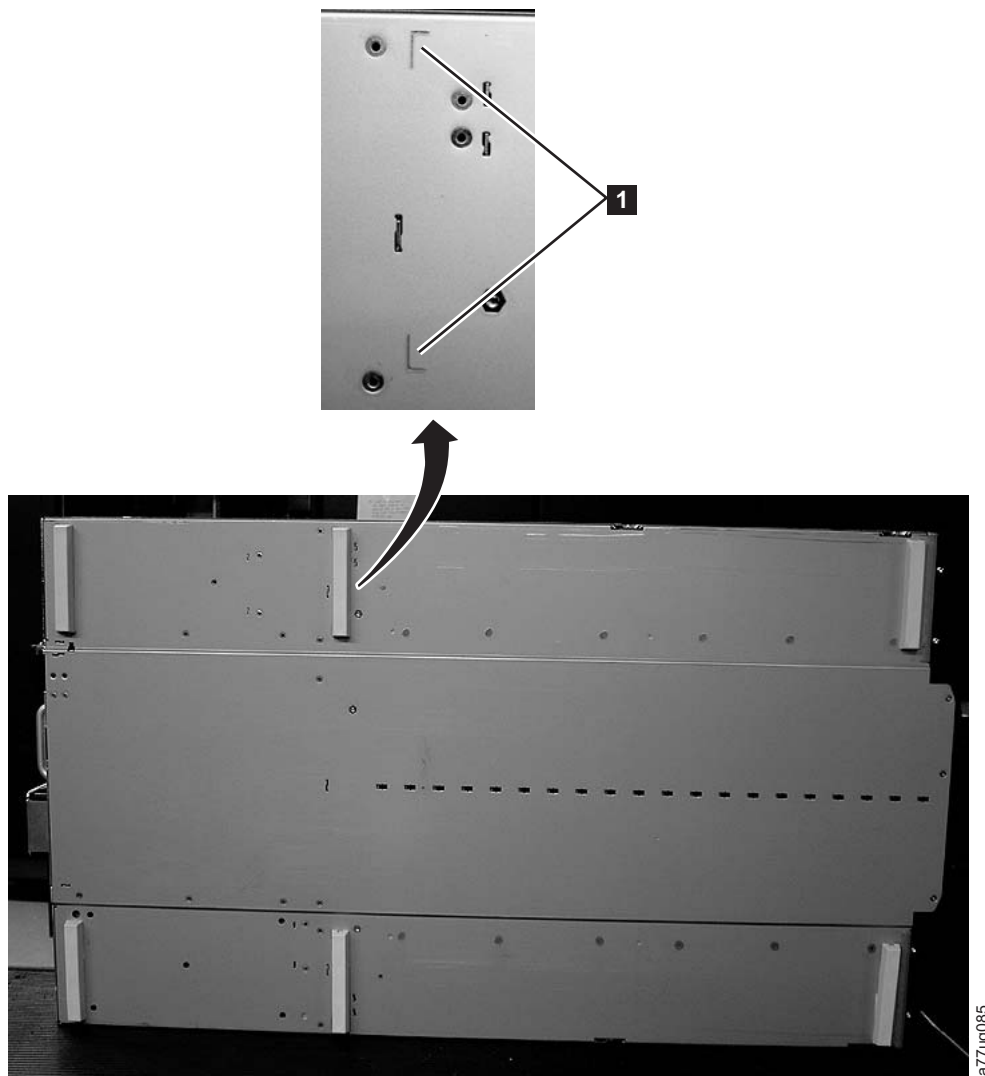

Figure 10-16. Foot pads installed on the bottom of the library enclosure
- 3) Install the foot pads on the bottom of the library enclosure by pressing each foot into one of the six areas (**1**) as shown in Figure 10-16 on page 10-17.